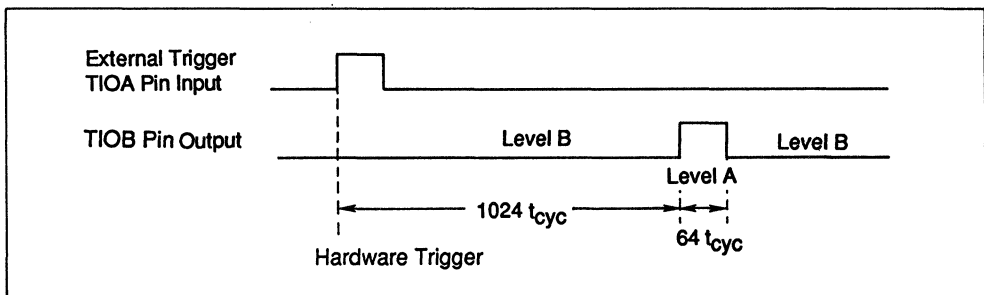

Figure 9-17. Hardware-Triggered One-Shot (2) Timing
**Function:** Timer is activated by hardware trigger and generates a one-shot pulse as shown in Figure 9-17.